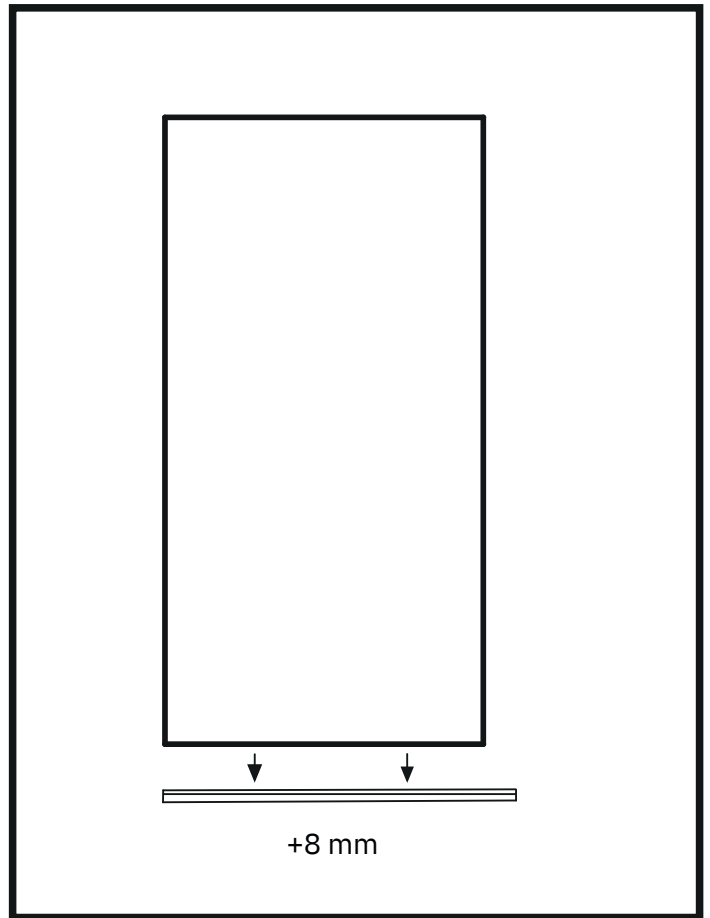

Figure 2
3. Check the length of the U-profile and the glass, the U-profile should be approximately 8 mm longer than the glass. (Figure 2)